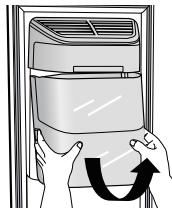

Figure 1
- Hold the handle as shown in figure1.